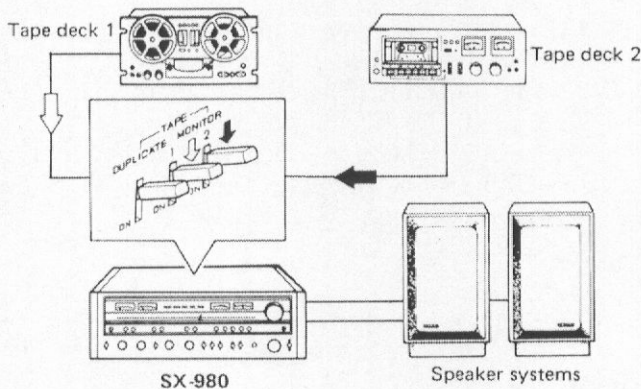

Fig. 18
1. As shown in Fig. 18, set the TAPE MONITOR switch 1 to ON if the tape deck is connected to the TAPE 1 jacks. Set the TAPE MONITOR switch 2 to ON if it is connected to the TAPE 2 jacks.